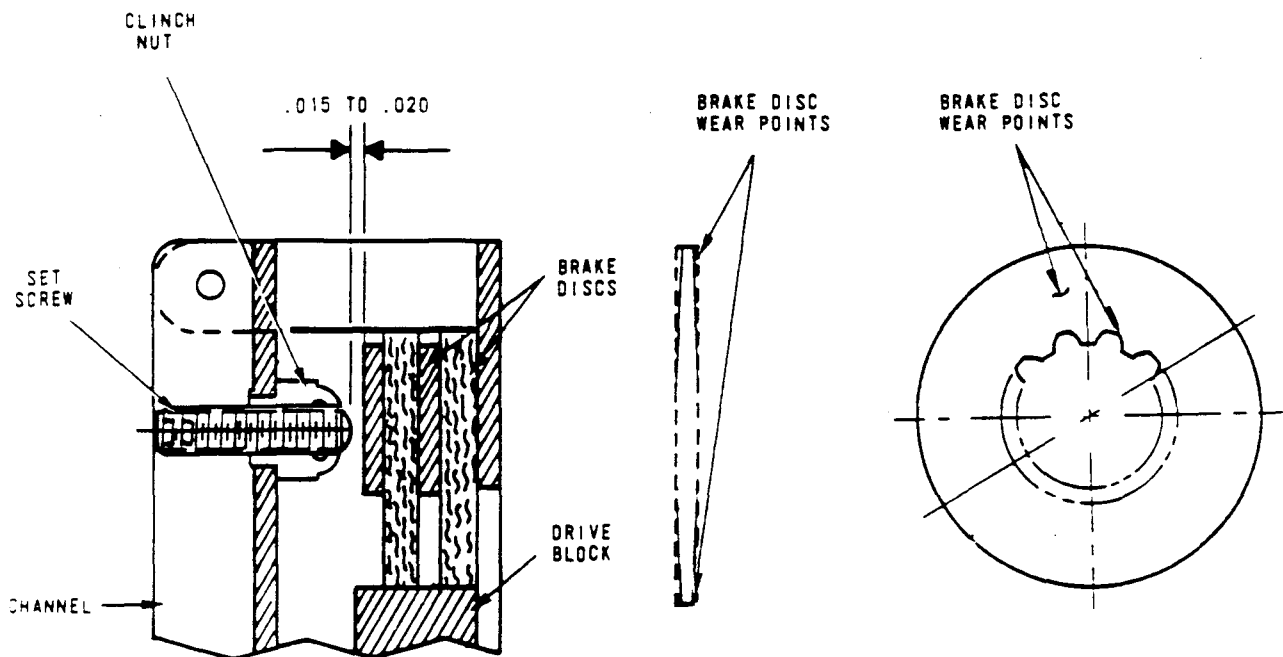

FIGURE 4.
4. Motor Brake: Check motor brake for worn discs and excessive play between the splines in the discs and the brake hub. If either disc is worn  $1/16"$  or more replace both discs. The new disc measures  $3/16"$ . Check adjustment as shown in Figure 4 below. Clean the solenoid plunger seat and check for even seating between the plunger and coil.